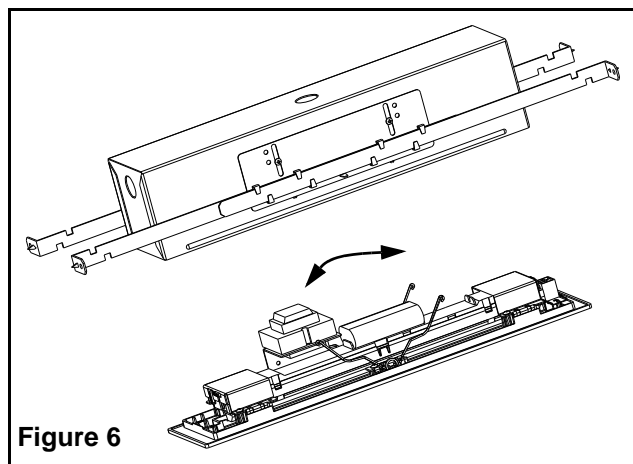

Figure 6
- 6. Compress the retention springs (Figures 6) and insert the trim plate assembly in the back box. Align to be flush with the back box or with the ceiling.